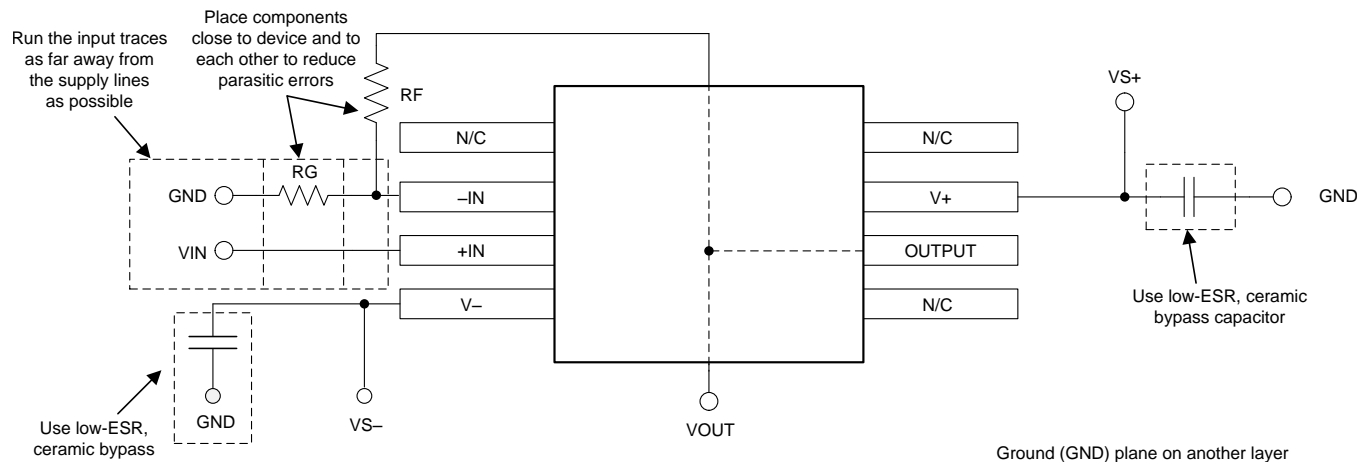

Figure 45. Operational Amplifier Board Layout for a Noninverting Configuration
- Place the external components as close to the device as possible. As illustrated in Figure 45, keeping R_F and R_G close to the inverting input minimizes parasitic capacitance.